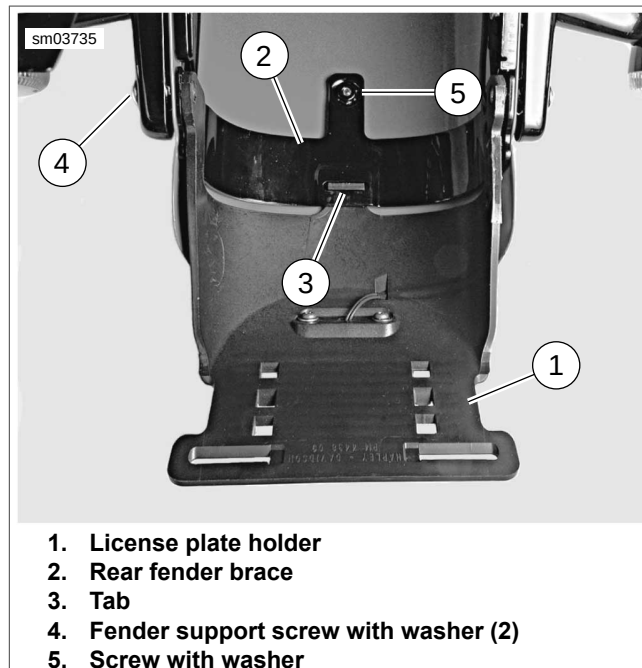

**Figure 6-56. Rear Lighting Interconnect Harness: XL 883N, XL 1200X (HDI)**
6. See Figure 6-56. Unplug license plate lamp harness connector [40] (2).
9. See Figure 6-56. Plug license plate lamp harness connector [40B] into interconnect harness connector [40B] (2).